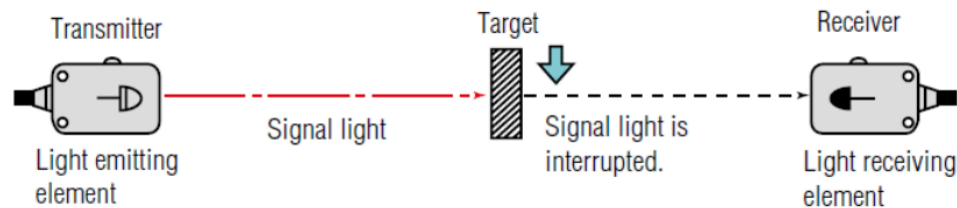

Figure 2: Beam break example [4]
- Beam break – [3] with the beam break this works by having a hole in the cam belt and counting every time the laser can pass through, seen in Figure 2. This has multiple negatives such as having to alter the cam belt by putting a hole in it, also this would mean having to connect this component very close to the belt which would likely be hard to do.